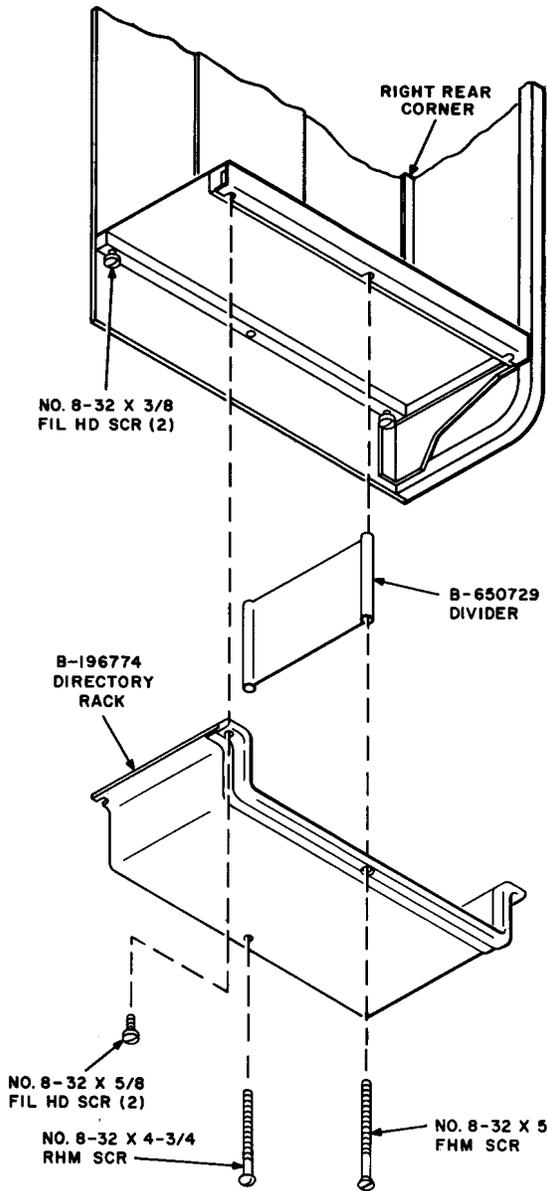

Fig. 16—Assembly of KS-19267, List 11 Directory Rack
3.09 Remove the KS-19267, List 11 directory rack per Fig. 16 or the KS-19267, List 13 cover assembly per Fig. 17.